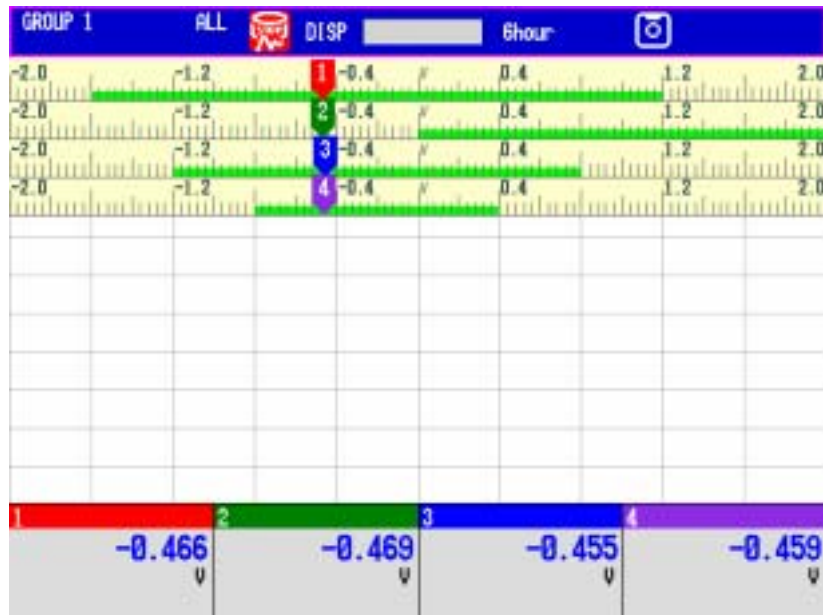

Fig. 3.6.1 Green Bands on scales
- a) In the scale and bar graph views of the trend window, green bands are displayed in the specified color. (For display examples, refer to Figs. 3.6.1 and 3.6.2.)